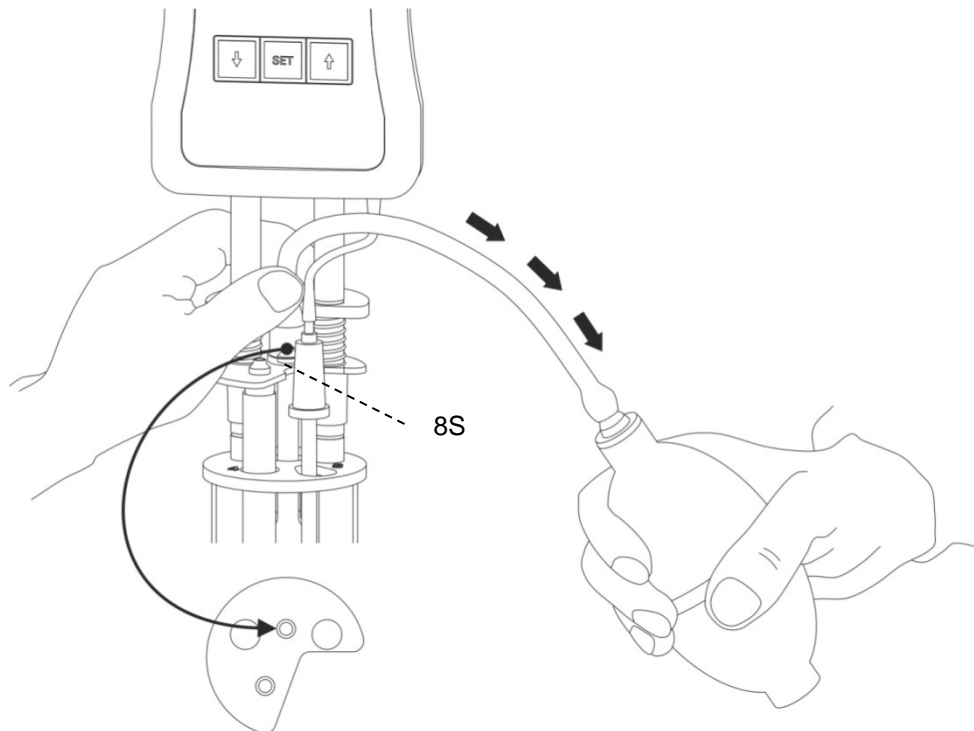

Fig. 9 Suction mode liquid handling with manual pump VZ 6554
**Do not pump the sample liquid into the measuring sphere using the manual pump after pressing the start key! (16)!** The installed ventilation valve of the ViscoClock *plus* is open. When using Ubbelohde viscometers (with ventilation tube) and for pushing operation, the sample would be pumped into the ViscoClock *plus* via the ventilation tube. **This results in damage to the unit!**
(b) on silicone plug (8S) above the capillary tube (22) for suction operation (see  Fig. 9)